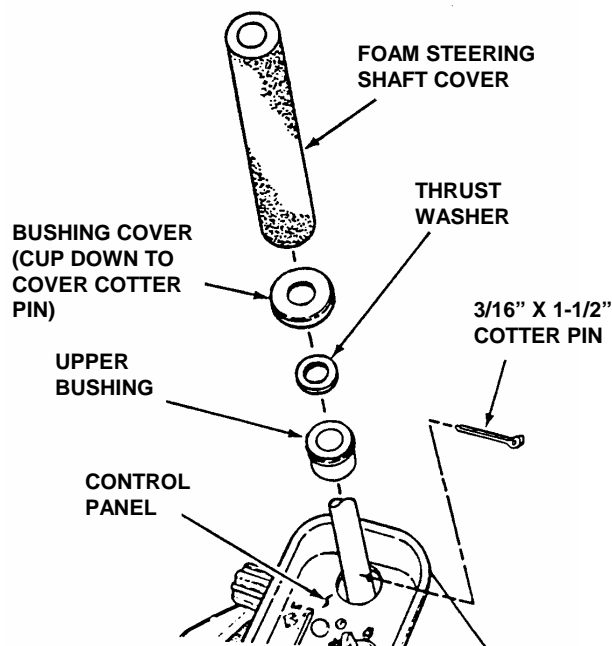

FIGURE 1
- Slide foam steering shaft cover over steering shaft. See Figure 1.